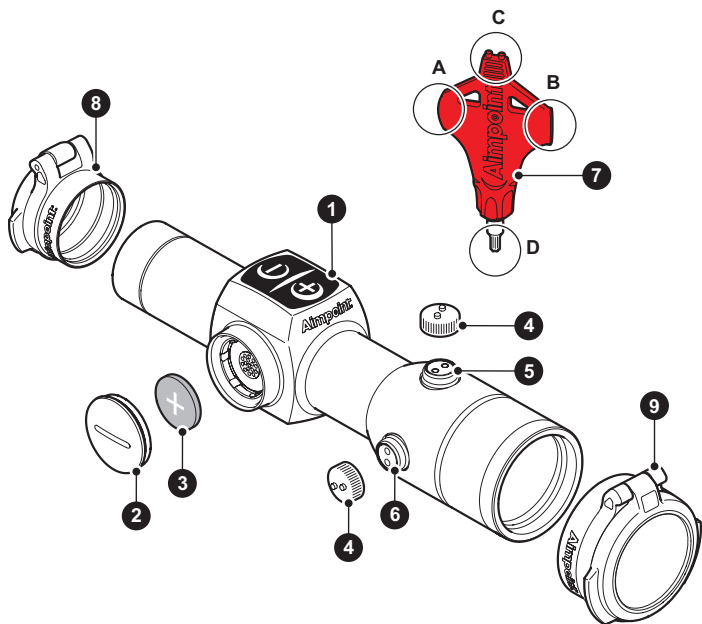

Fig. 2 ➡ 1.2
See Fig. 2
- Start the sight by pushing **+** or **-** on the intensity adjustment touch pad (1) located on top of the sight.
- Remove battery cap (2) by turning it counter clockwise using the plastic adjustment tool (7A) included with your sight.
- Insert battery (3) with positive end (+) toward battery cap (2) as can be seen in Fig 2.